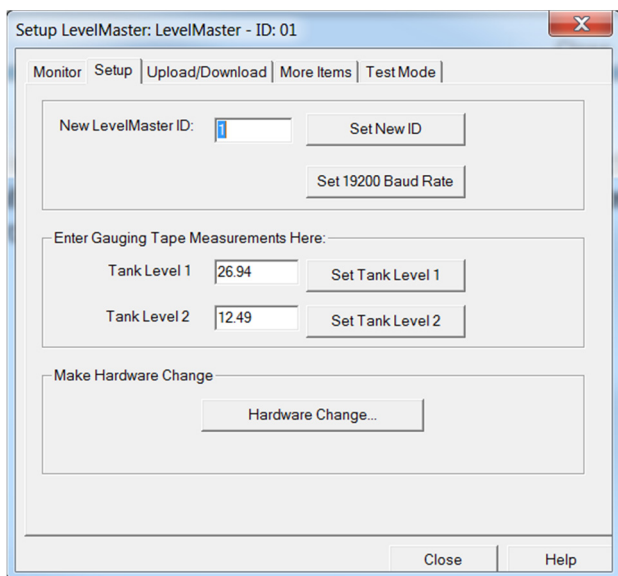

Figure 8: Configure the ID and Baud Rate
8. Click the **Setup** tab (Figure 8).